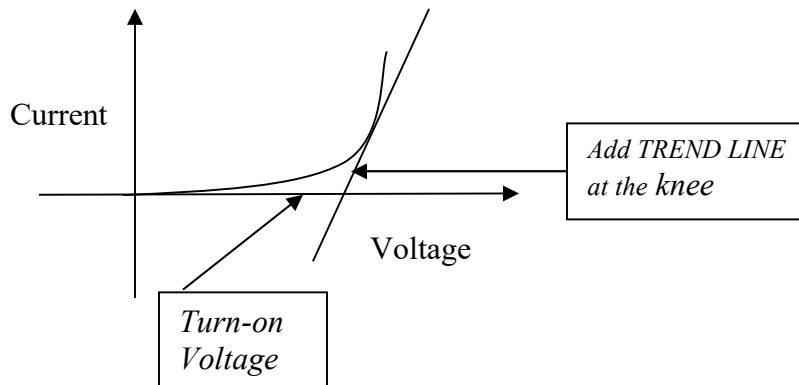

Fig. 3.3 Diode I-V curve (Forward Bias)
4. Ensure a curve resembling Fig. 3.3 above appears on the oscilloscope screen.
12. Determine the value of the **Turn on Voltage**, which is the X axis intersection of the tangent line at the **knee** of the curve as shown in Fig. 3.3